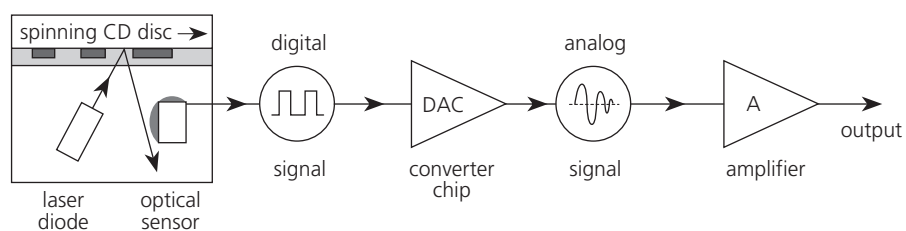

Figure 16.19
- 3 *The lens and laser assembly.* This is why all drives have the LASER CLASS device warning symbol attached to them, but in reality they are not dangerous at all when used normally. The lens system must focus the laser beam onto the lands and bumps of reflective aluminium. The laser beam passes through the polycarbonate layer and reflects off the bumps and lands, producing a variable light signal to the opto-electronic sensor. Further electronic digital gates in the drive provide the digital bitstream to the DAC and finally to the internal signal amplifier. Figures 16.19 and 16.20 show these processes.